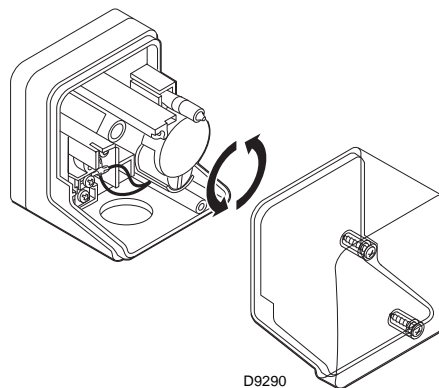

Fig. 28
- Adjust the minimum gas pressure switch (Fig. 28) to the start of the scale.
Adjust the minimum gas pressure switch after having performed all the other burner adjustments with the pressure switch set at the start of the scale (Fig. 28).